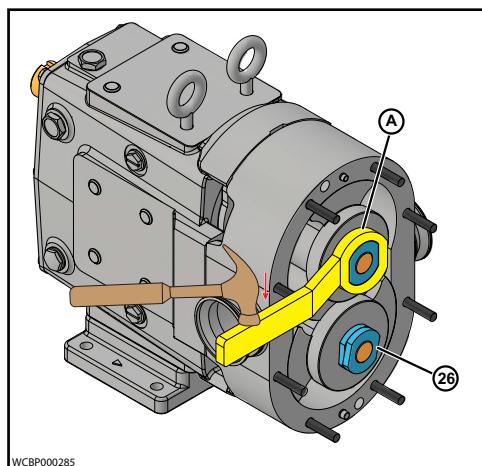

Figure 33 - Remove Rotor Retaining Nuts
- Remove the rotor retaining nuts (26). Use the special wrench (A) supplied with the pump and hit the handle sharply with a soft hammer to loosen the nuts (26) (Figure 33).